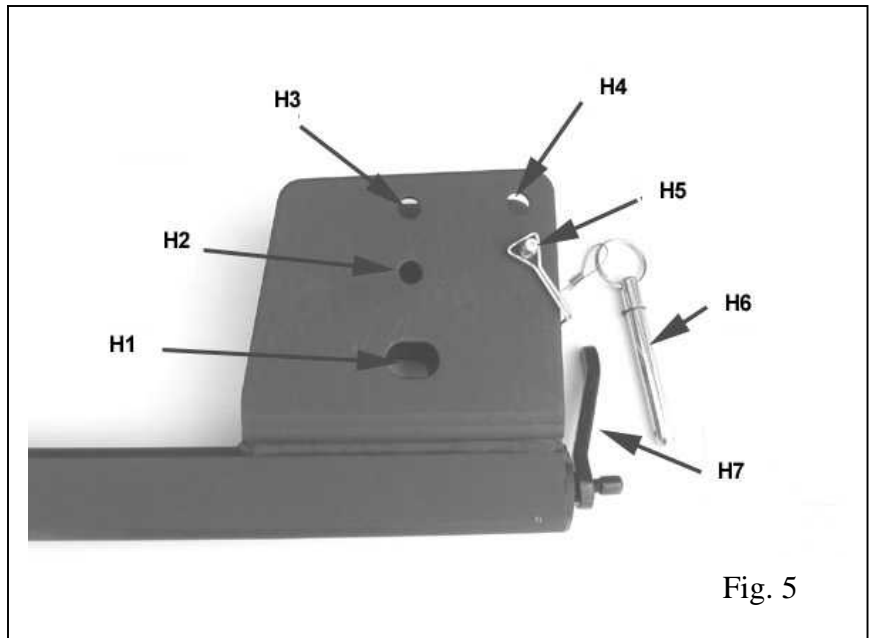

Fig. 5
2. See Fig. 5 and 6: Gently insert Base Assy **B** into the bracket of Receiver tube **H**, aligning holes **H3** with **B2**. The main beam can rest on pin **H5**. There are two plastic washers (**B3**) attached to main beam **B**, please take care not to accidentally scrape them off during assembly. Insert pivot bolt **G** with washer **J** through holes, then place the other washer **J** on end of bolt and hand tighten nut **I**.
Now refer to Fig. 5: remove clip **R** from pin **H6**, then remove pin **H6**. Rotate main beam upward and re-install pin and clip. See Fig. 13a and 13b
For easy access to the rear cargo door of your vehicle, the Sport Rider can be tilted down: First fold down vertical Post as described in “Fold-up feature”. Next refer to fig. 5: Remove pin **H5** from receiver tube bracket and gently lower the main beam down so it is resting on the welded stop. See Fig. 14
2. Voir Fig.5 et 6. Insérer l'assemblage base B dans H en alignant les trous H3 avec B2. Le tube peut être posé sur la goupille H5. Insérer le boulon G avec une rondelles J dans le trou H3 à travers le tube B et la plaque de H, insérer l'autre rondelle, installer l'écrou I et serrer fermement.